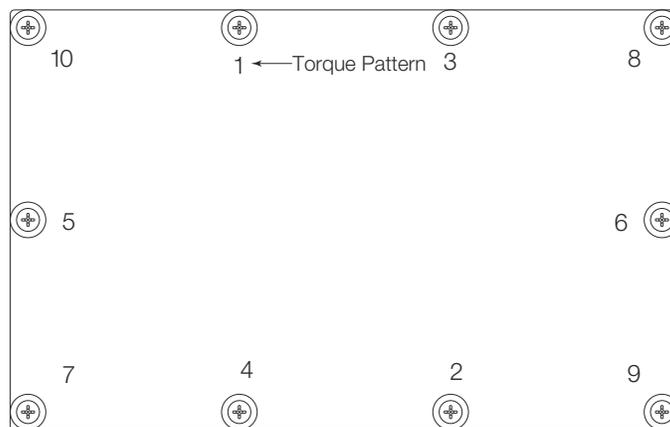

Figure 7. Backplate Torque
- Once installing the power supply is complete, position the backplate over the enclosure and reinstall the backplate screws. Use the torque pattern shown in Figure 7 to prevent distorting the backplate gasket. Torque screws to 15 in-lb (1.7 N-m).